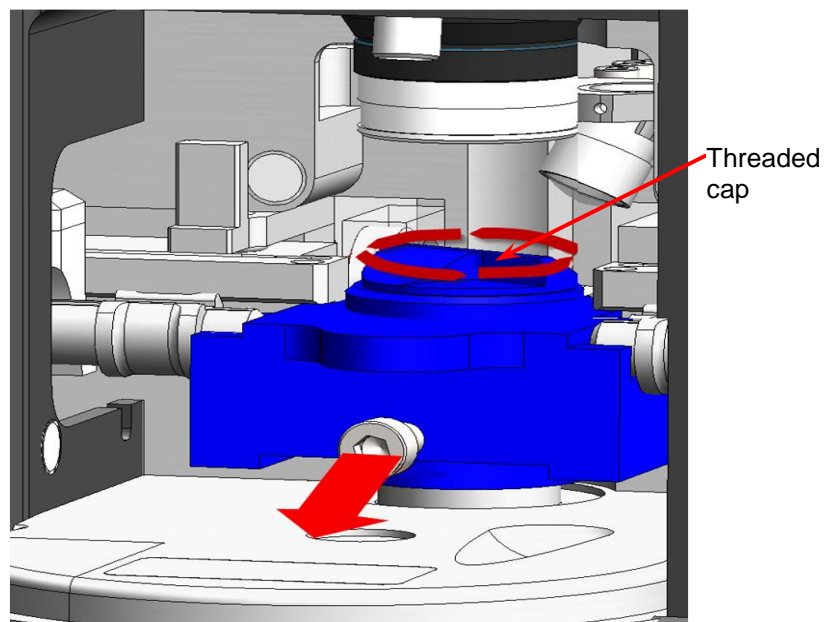

Fig. 3-7
1. Unscrew the screw M5 on the body of the bracket. Loosen the scanner cap by several revolutions (Fig. 3-7).